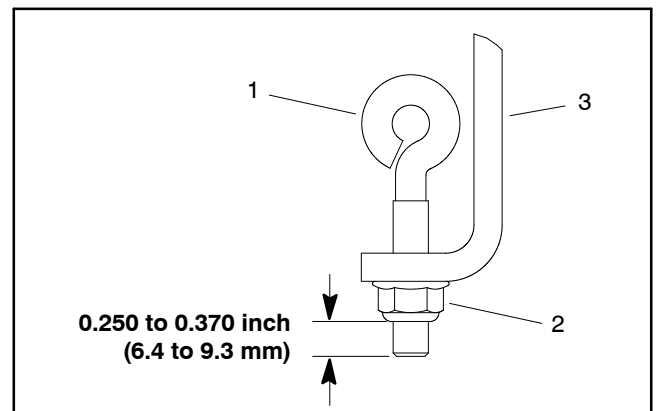

Figure 55
2. If eyebolt that locates the bottom of the neutral arm spring is removed, install eyebolt so threads extend below the flange nut from 0.250 to 0.370" (6.4 to 9.3 mm) (Fig. 55). If quicker return to the traction neutral position is desired, adjustment can be made to increase amount of thread extension. This adjustment will also result in higher pressure required to depress traction pedal.